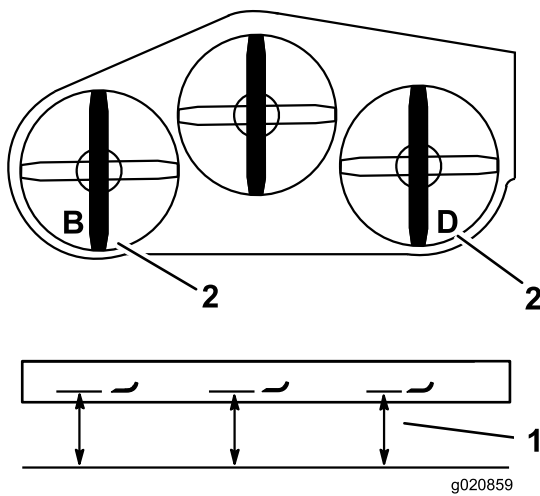

Figure 84
2. Measure the left blade at the **B** location, from a level surface to the cutting edge of the blade tip, and record this measurement (Figure 84).
3. Measure the right blade at the **D** location, from a level surface to the cutting edge of the blade tip, and record this measurement (Figure 84).
Note: The measurement at position **B** needs to be within 3 mm (1/8 inch) of the measurement at position **D** (Figure 84). If it is not correct, proceed to the following steps.